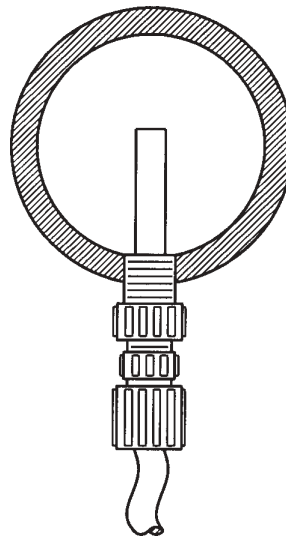

Figure 2.5
- Pipe corrosion can result if dilution at the injection point does not occur rapidly. This problem is easily prevented by observing this simple rule: install injection fitting so that the end is in the center of the flow stream of the line being treated. Trim injector tip as required. (See Figure 2.5.)